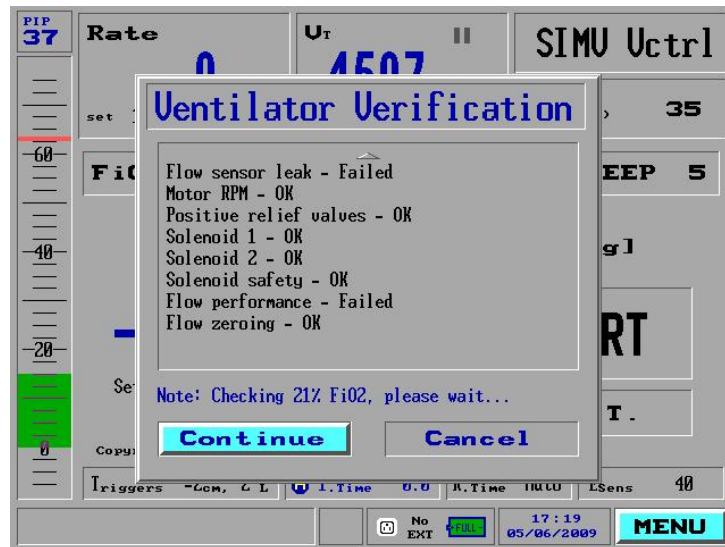

Figure 160: The 21% FiO2 Test
- The test takes about 1 minute. When it is completed, the VVT screen instructs you to connect an O2 supply. This test takes about 2 minutes to complete (Figure 160). The VVT instruction pop-up window appears.